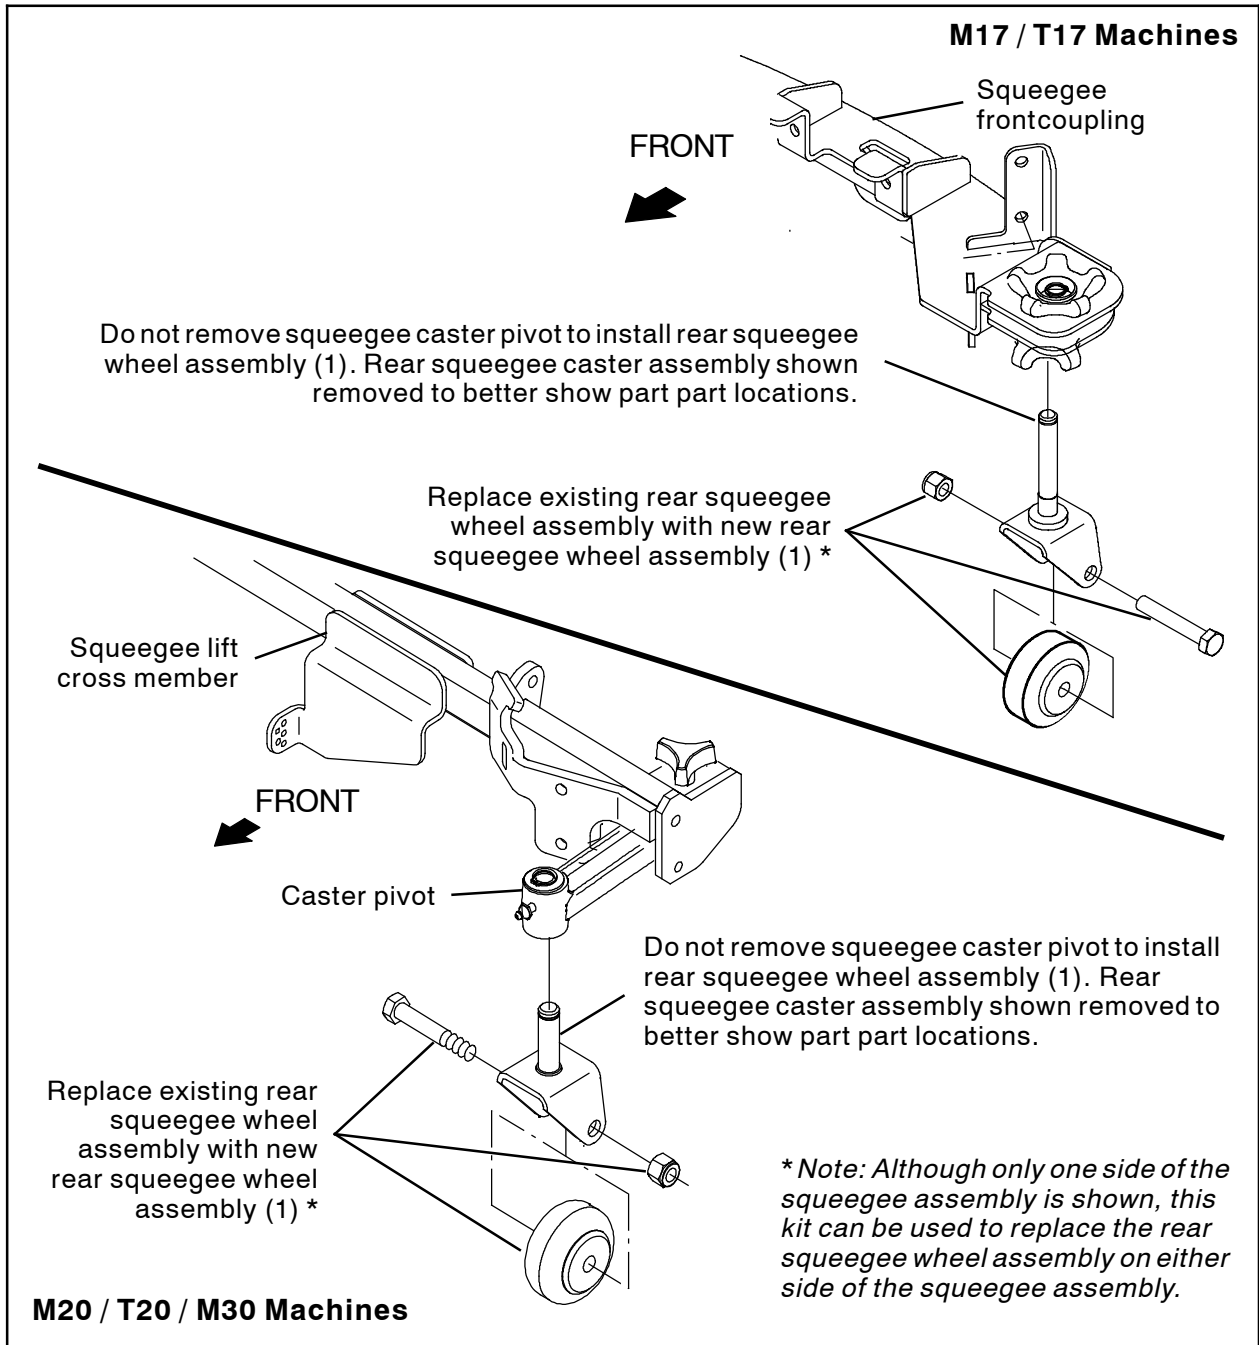

FIG. 1
1. Remove the existing rear squeegee wheel assembly from the machine. Discard the existing rear squeegee wheel assembly and hardware. (Fig. 1)
2. Use the hardware provided with the new rear squeegee wheel assembly (1) to install the rear squeegee wheel assembly onto the squeegee caster pivot. Be sure there is no side to side movement of the rear squeegee wheel assembly in the squeegee caster pivot. Also be sure the rear squeegee wheel assembly spins freely in the squeegee caster pivot. (Fig. 1)
3. Connect the grease gun to the rear squeegee wheel assembly (1) zerk and pump the grease gun two times to apply grease into the rear squeegee wheel assembly. (Fig. 1).